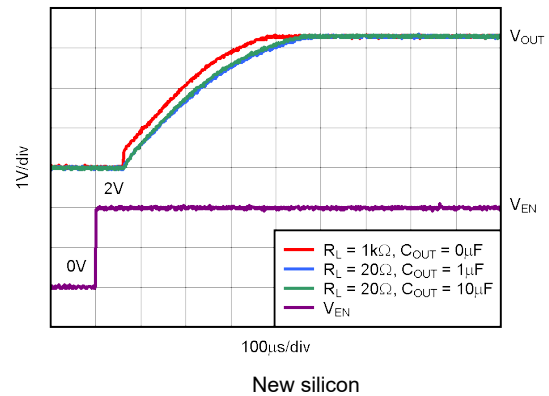

图 5-40. TPS73633 Turn-On Response
The enable pin (EN) is active high and is compatible with standard TTL-CMOS levels. V_{EN} below 0.5V (max) turns the regulator off and drops the GND pin current to approximately 10nA. When EN is used to shutdown the regulator, all charge is removed from the pass transistor gate. A V_{EN} above 1.7V (minimum) turns the regulator on and the output ramps back up to a regulated V_{OUT} (see 图 5-40).